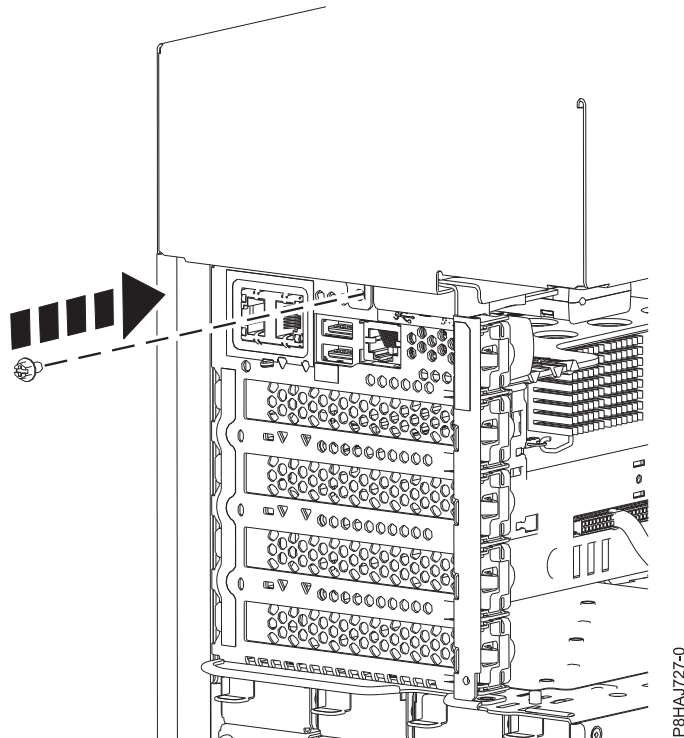

Figure 69. Installing the 8286-41A side cover screw
5. Install the side cover rear screw with a Phillips screwdriver as shown in Figure 69 on page 105.